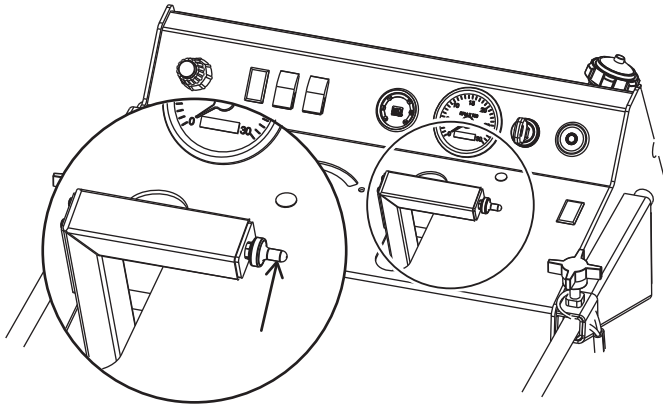

Figure 24. Raise-Lower Control Toggle Switch
1. To lower the blade, push the toggle switch located on the end of the control handle FORWARD (Figure 24).